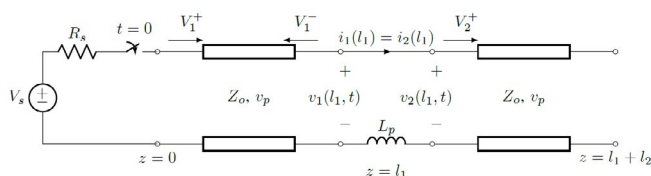

Fig. 2. A transmission line circuit with a parasitic inductance in the return path
Consider the transmission line circuit in Fig. 2. This circuit has an inductance in the return path between the two transmission line elements. The procedure for solving this circuit begins at finding the solution for the voltage on the first line for  $t \leq \frac{l_1}{v_p}$ , which results in
Time domain reflectometry (TDR) is one of the best measurement techniques to diagnose discontinuities in signal paths. However, the incident wave used by TDR is simply a less ideal version of the transmission line solution in (1). The TDR measurement will see the discontinuity in a circuit like Fig. 2, but it will not indicate that the discontinuity is in the return path. Such will be the case with most return path discontinuities. The TDR response will still show the delay to the location of the discontinuity. Then, the search for the cause of the disturbance can start, investigating the signal path and any possible return paths.